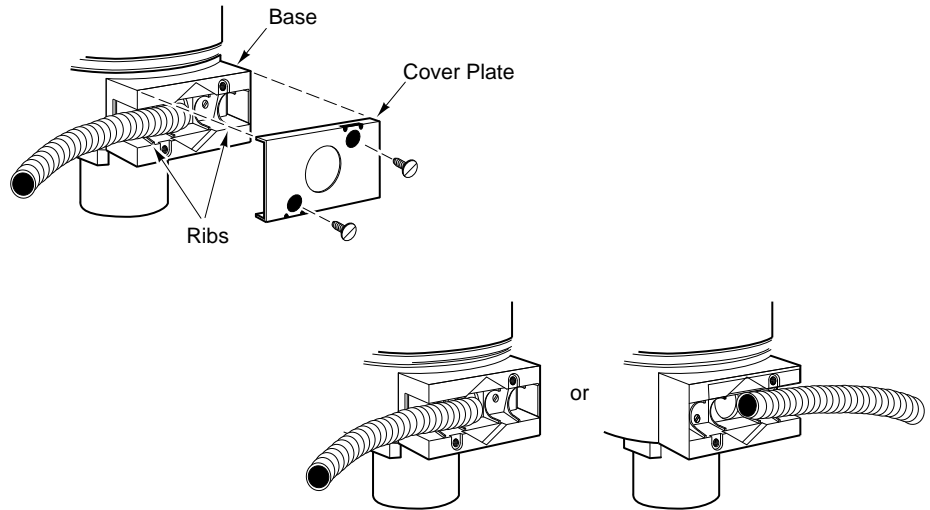
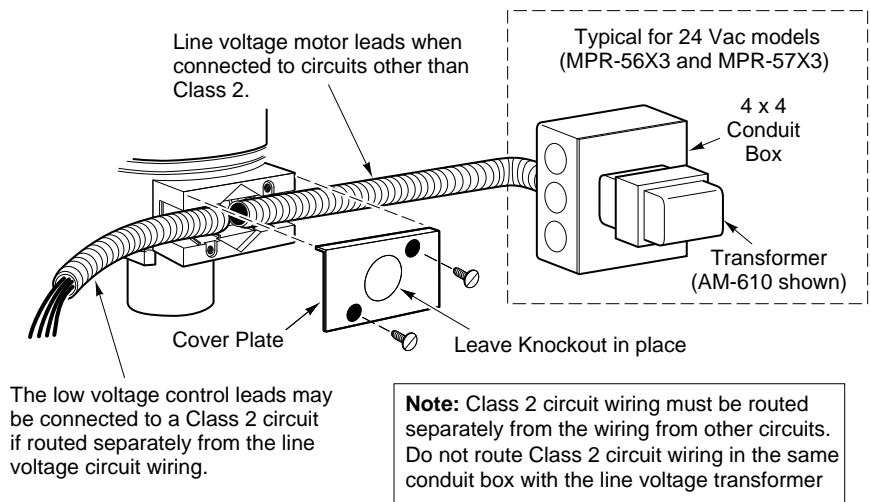

Figure-8 Flexible Conduit Installation to Either Side of Actuator.
Figure-9 MPR-5600 and MPR-5700 Series Wiring with Separation for Class 2 and Line Voltage Circuits.
The control leads may be connected to a Class 2 circuit if routed separately from Class 1 circuit wiring. Refer to Figure-9 .
Line voltage (120 Vac and 240 Vac) power leads must be connected to a Class 1 circuit and routed separately from Class 2 circuit wiring. Refer to Figure-9 .
Flexible conduit may be installed onto one or both sides of the actuator (refer to Figure-8 and Figure-9 ). Install each conduit as follows:
4. Slip the conduit onto the base, over the ribs. Refer to Figure-8 and Figure-9 .